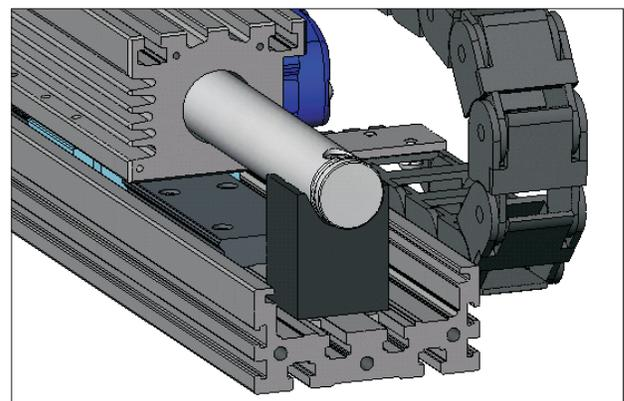

Figure 3.10
- Remove the four M3 countersunk fixings that secure the bellows fixing plate to the forcer and remove the bellows from the module assembly. The module with bellows removed is shown in Figure 3.10.